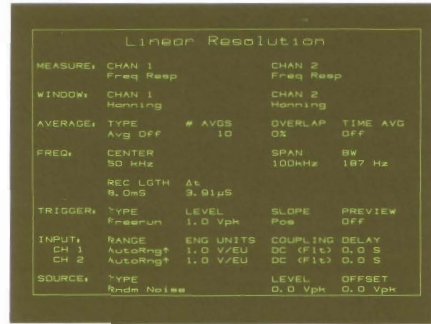

Figure 7-1
- 1. Special Preset** Press the green **PRESET** key. In the preset menu, select the softkey labelled **TIME THRUPT**. A dc-to-100 kHz Linear Resolution frequency response measurement will be set up as shown in Figure 7-1.